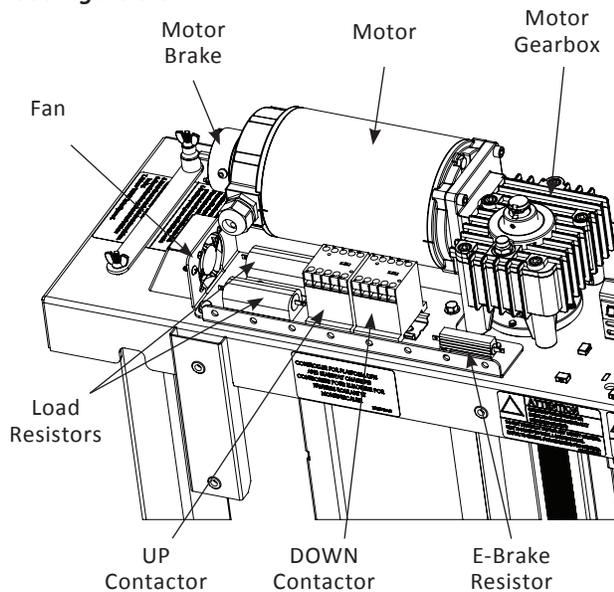

Figure 6-6 (wires not shown)
**See Figure 6-6 on page 33.**
**See Figure 6-6.**